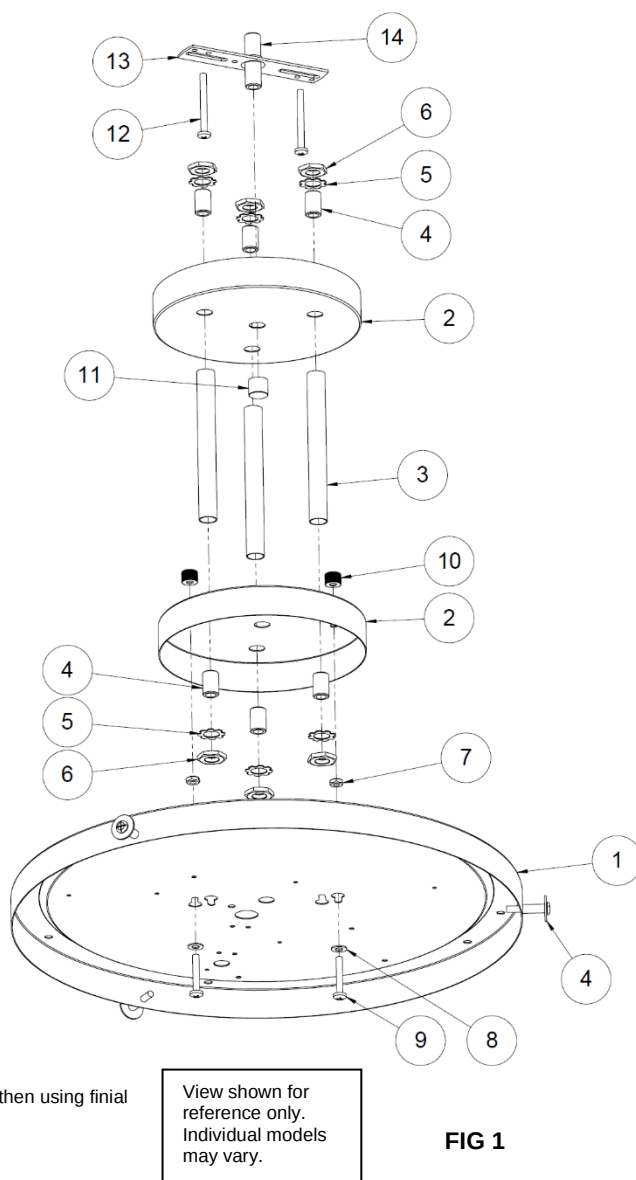

FIG 1
Step 1 – Preparing for Installation (Fig 1)
- Thread the nipple (4) into the stem (3) with one full turn clockwise then insert it to the canopy (2) using lockwasher (5) and jam nut (6) to secure it. Repeat until all three stems are installed and secured onto both top and bottom canopies (2).
- Connect the fixture (1) wires to corresponding green, white, black, pink (or grey) and purple on the bottom canopy using included wire nuts to secure it.
- Install the long screws (9) to the outer mounting hole of the fixture pan (1) with flat washer (8) and nut (7) to secure it. Repeat until other screws are installed on the pan.
- Install bottom canopy (2) to the fixture (1) by aligning two holes on the top with screws (9) using barrel nuts (10) to secure it.
- Install mounting bracket (13) to the 3/0 or 4/0 junction box (not included) by using two screws (12) to secure it. Thread the nipple (14) into the mounting until only 1-1/8 inch protrudes toward the fixture.